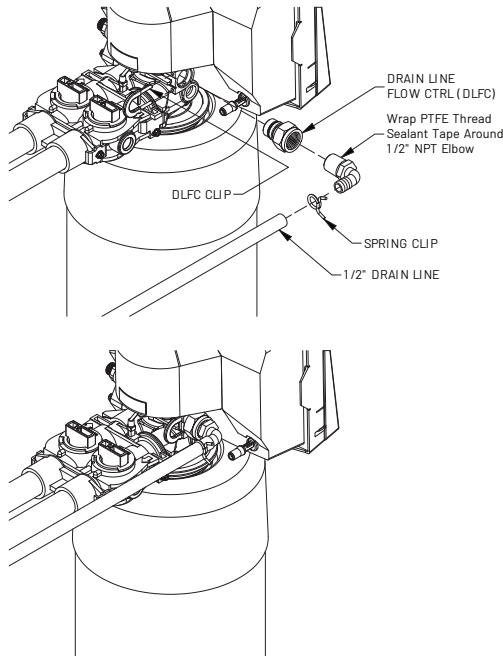

Figure 5
- Connect the drain line to the drain outlet on back of the valve, opposite the inlet connection (see figure 5). A fitting is require to connect the female pipe thread to the drain line. Run the drain line to the air gap.